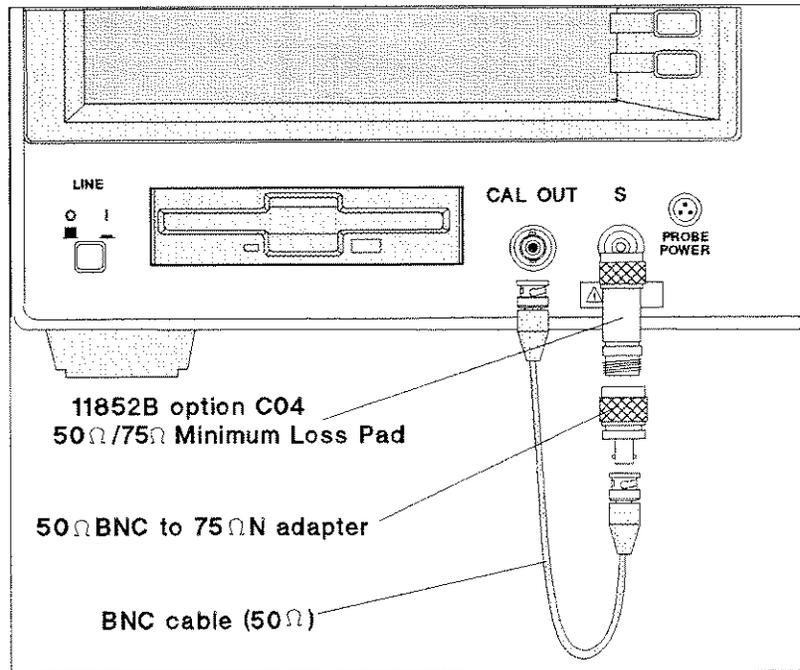

Figure 2-16.
4. Attach the 75 Ω N(m) to 50 Ω BNC(f) adapter to the HP 11852B option C04 50 Ω(m)/75 Ω(f) minimum loss pad that is connected to the S input. (See Figure 2-16.)